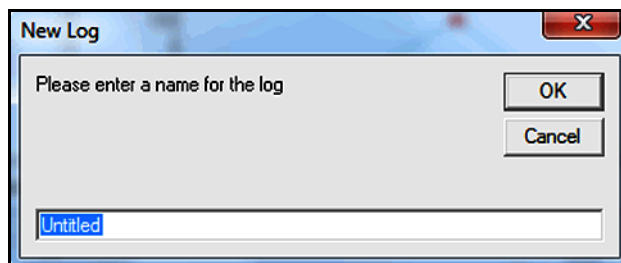

Figure 76: Log Name Dialog Box
- f. Enter a name for the log file in the dialog box shown in *Figure 76* below (“Untitled” is used here). Click [OK] button.